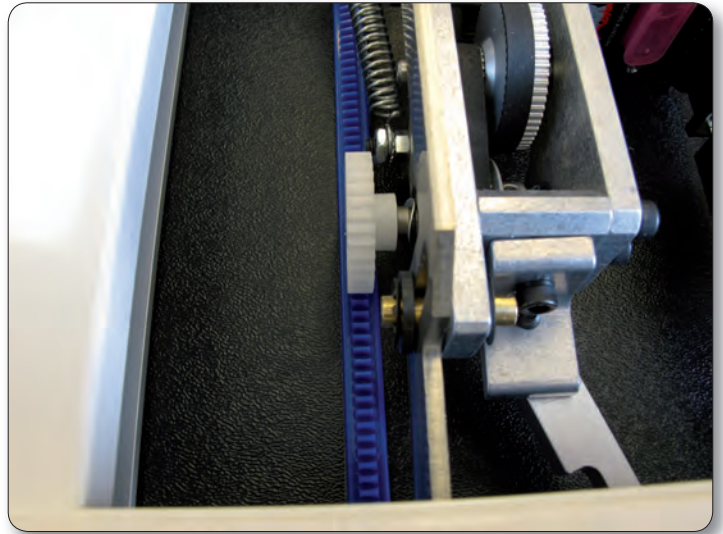

Figure 3
4. Make adjustments to the placement of the blue rack as necessary to align the blue rack with the front white gear on the HQ Pro-Stitcher carriage (see Figure 3).